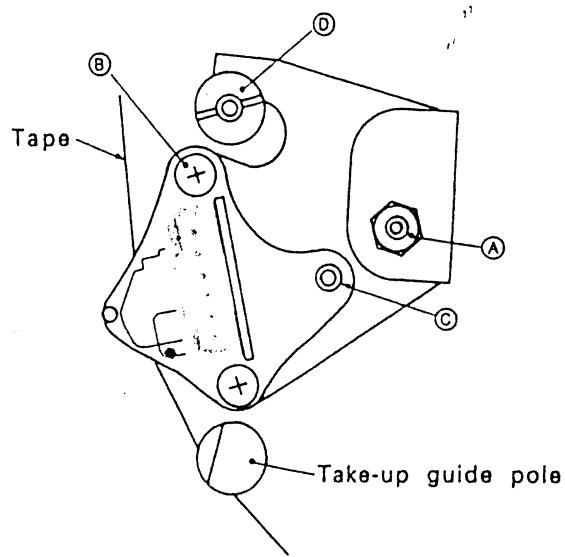

Fig.14 Take-up guide pole
- b) Turn Audio/CTL Head screw ② as shown in Fig.14 and adjust for smooth transport at the take-up guide pole as shown by F of Fig.10.